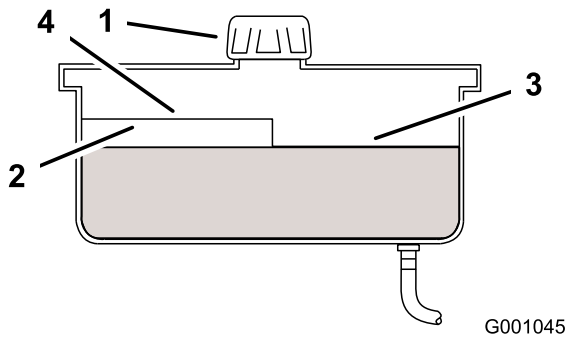

Figure 57
2. Clean the area around filler neck of hydraulic tank (Figure 57).
3. Remove the cap from the filler neck. Look inside to check if there is fluid in the reservoir (Figure 57).
Note: The fluid level should be to the top of the hot level of the baffle, when the fluid is hot (Figure 57).